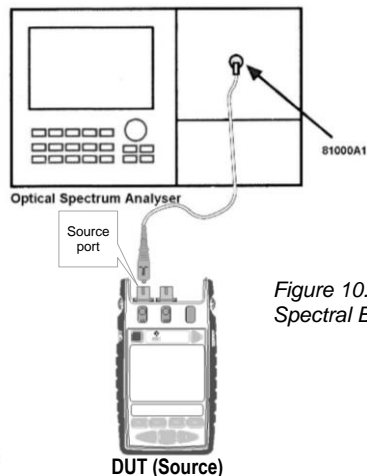

Figure 10. Centre  $\lambda$  and Spectral Bandwidth tests
1. Connect the equipment as shown in Figure 10 (next page).